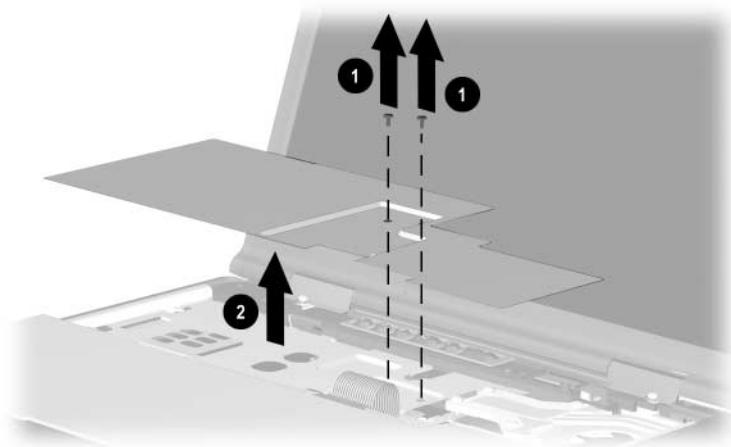

Figure 5-16. Removing the Keyboard Shield
6. Remove the two PM2.0 × 4.0 screws ① that secure the keyboard shield to the base enclosure (Figure 5-16).
7. Remove the keyboard shield ②.